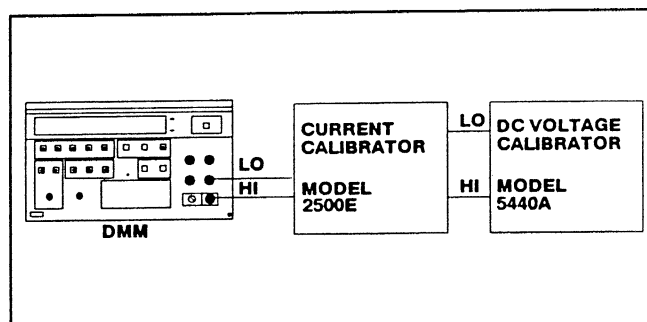

Fig. 3-5. DC Current Calibration Configuration.
- Connect the DMM to the DC current calibrator (Fig. 3-5).